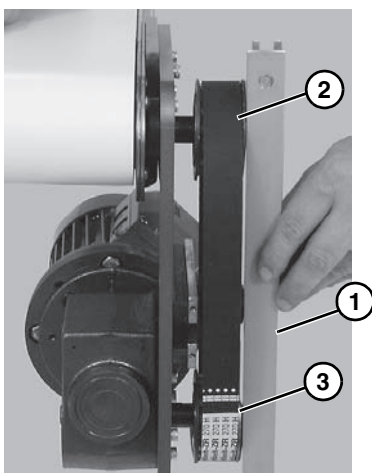

Figure 9
8. Using a straight edge (Figure 9, item 1), align driven pulley (Figure 9, item 2) with drive pulley (Figure 9, item 3).